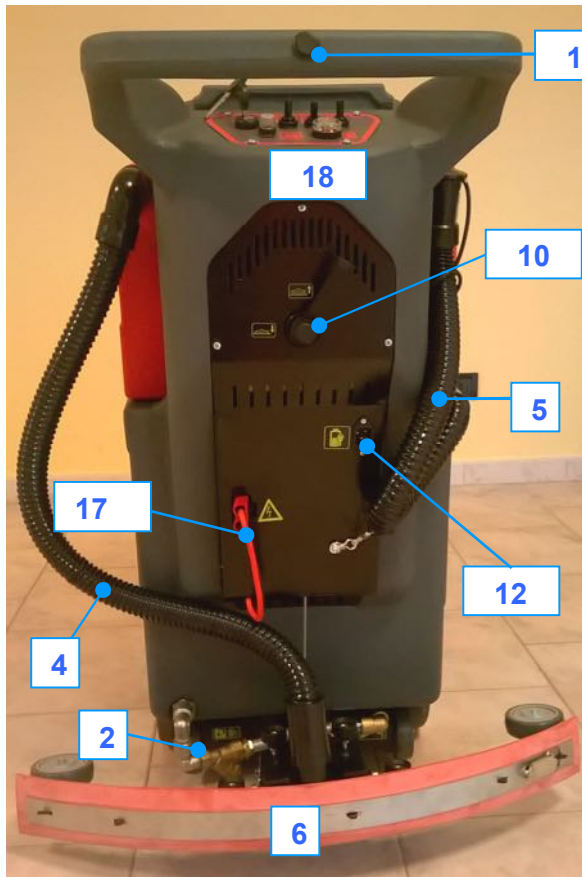

Figure 2 – FKC 46: On the left: operator position; On the right: commands rail assembly
Before performing any maintenance operation, be sure to disconnect the power supply thanks to the appropriate safety device (ref.13 Figure 2)